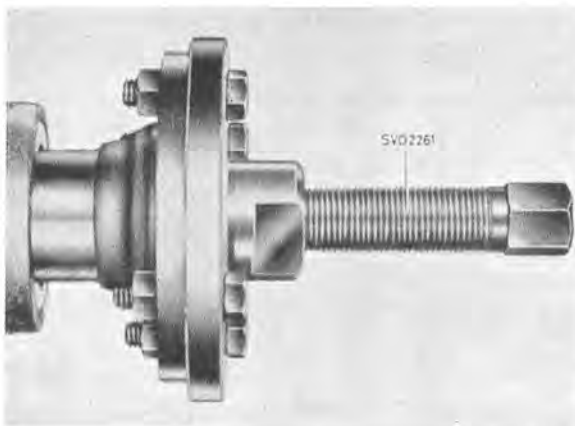

Fig. 4-14. Removing flange
2. Release the nut for the flange. Pull off the flange with puller SVO 2261, see Fig. 4-14.
3. Slacken the nut for the flange. Use for this tool SVO 2837. Pull the flange off with puller SVO 2261, see Fig. 4-14.